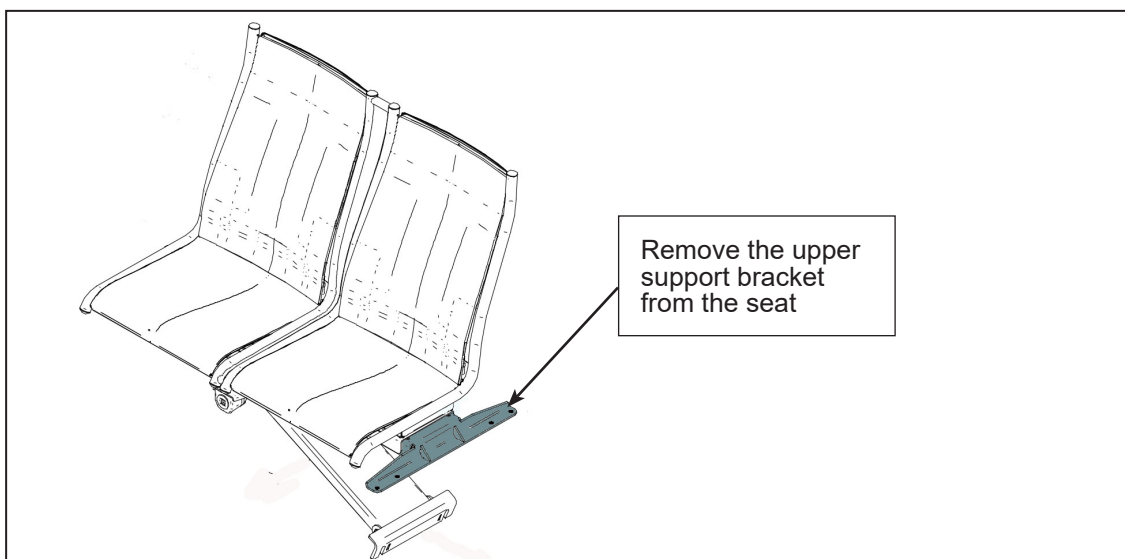

Figure 4 - Typical Upper Support Bracket to Remove
- d. Remove the upper support bracket from all the removed cantilever-type seats. Retain the hardware. See Figure 4.